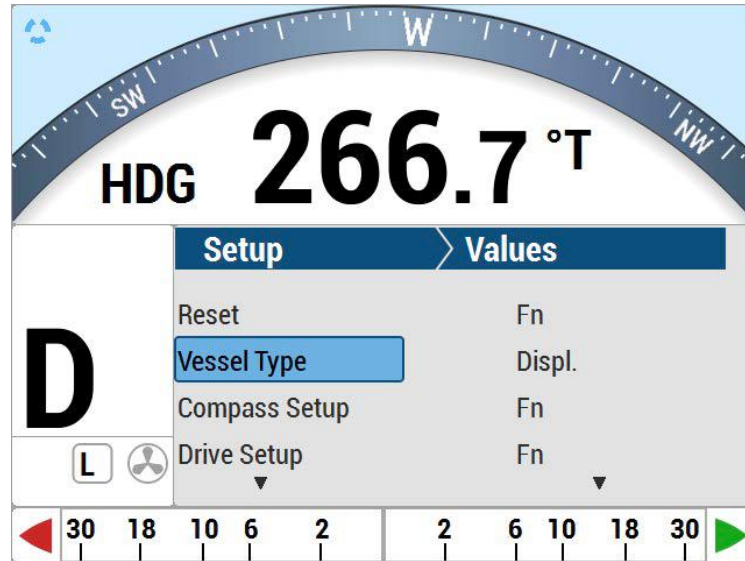

Figure 51 – Set Vessel type
2. Select the Vessel Type menu line shown in Figure 51, and set the type of your boat (see Table 4 - Vessel Type).